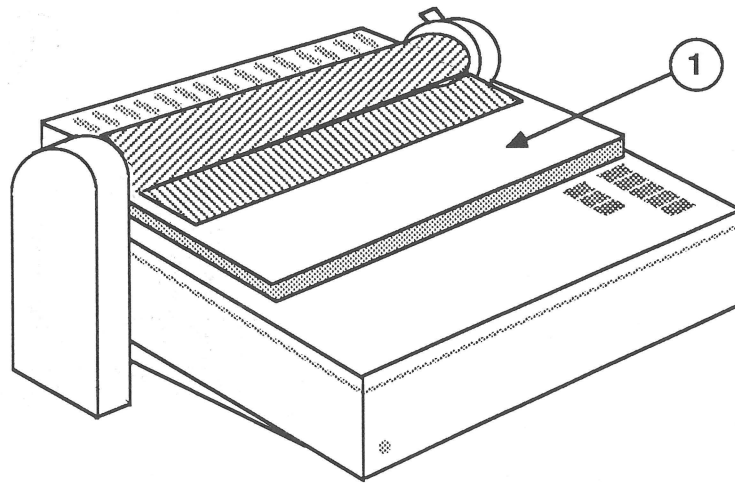

FIGURE 3
2. Lift up and remove the paper cover (Figure 3, #1).